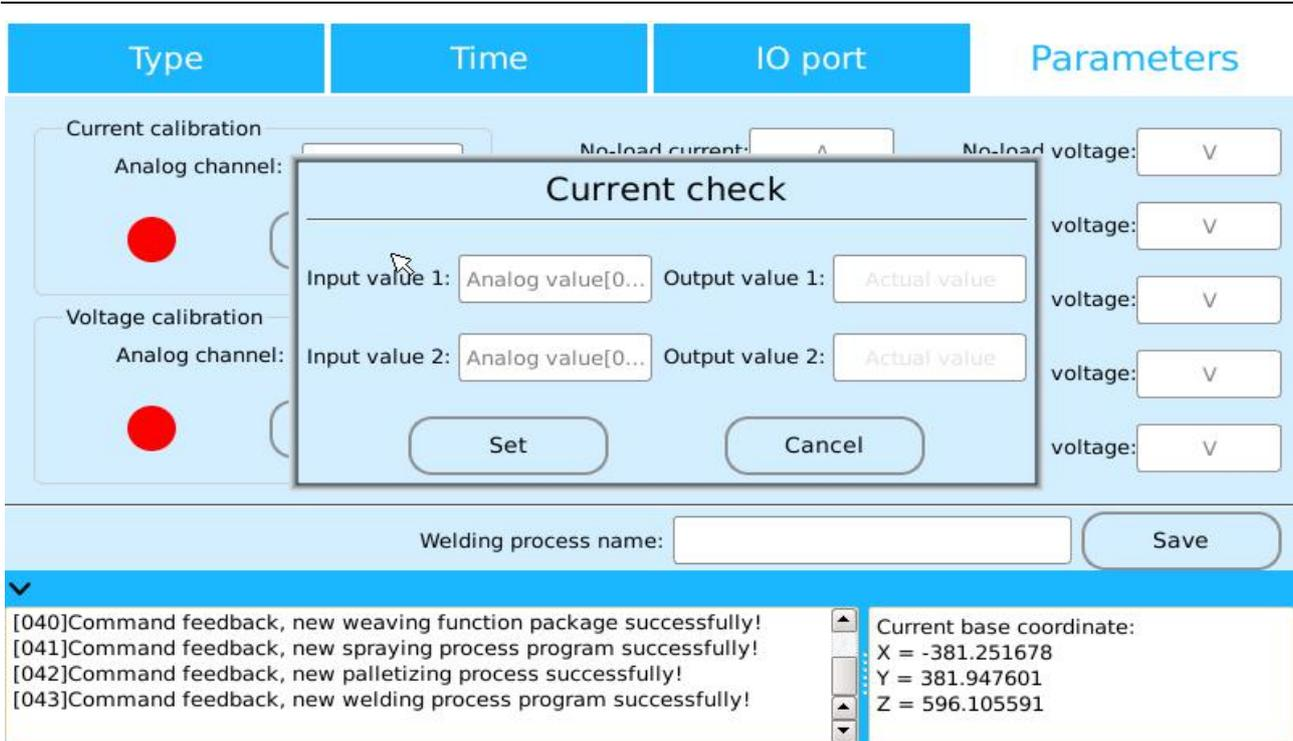

Figure 8.16 Settings interface for “welding procedure”
(4) Set “welding parameters”: The "welding parameters" set by the system are related to the "welding machine type" selected. Taking the "Megmeet" welding machine as an example, "current calibration" and "voltage calibration" are required first, and then parameters are set according to the welding machine specifications and actual conditions: “Empty-load current”, “empty-load voltage”, “arc starting current”, “arc starting voltage”, “welding current”, “welding voltage”, “arc retraction current”, “arc retraction voltage”, “anti-viscose current” and “anti-viscose voltage”, as shown in Figure 8.16.